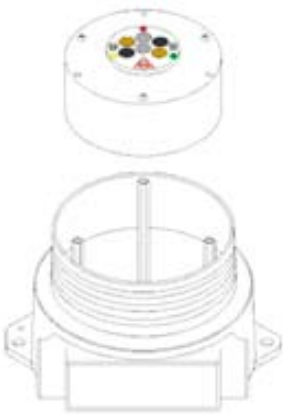

Figure 2-9
4. Slide the Detector Module puck out of the enclosure base (see Figure 2-9).